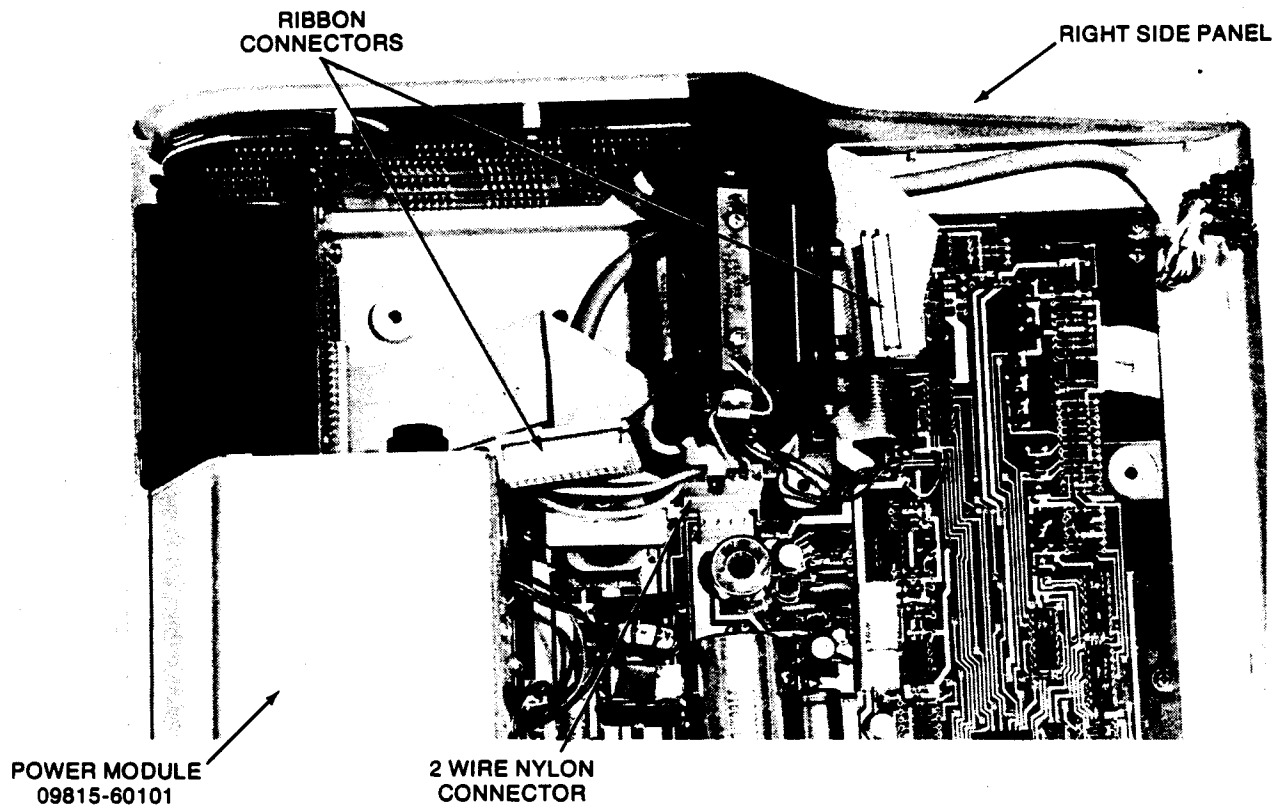

Figure 1-4. Option 002 Connection
- Connect the 2-wire nylon connector as shown in Figure 1-4. This connector is color coded for correct installation.
- Bend and position the two ribbon connectors as shown in Figure 1-4.
- If the I/O Option (Option 002) is installed, remove the two I/O ribbon connectors from the keyboard assembly (Figure 1-4).
Disconnect the 2-wire connector from the power supply assembly (see Figure 1-4); then lift the I/O buffer and the right side panel off the calculator.
- Both I/O buffer ribbon-cable connectors are plugged in with the cables pointed to the bottom of the instrument as shown in Figure 1-4.